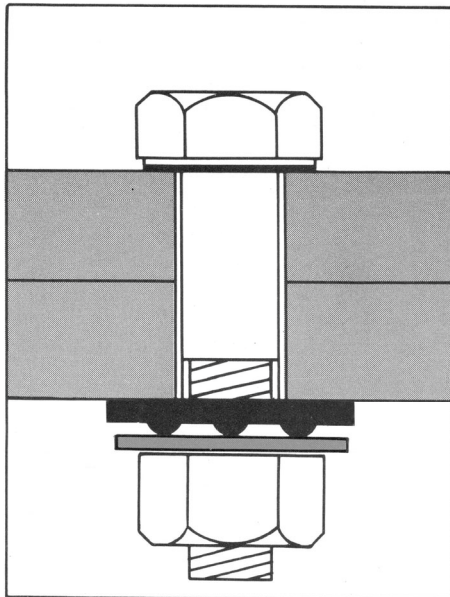

Figure 1. ViewTite Bolting Assembly
1. Install Structural Bolting Assemblies with the ViewTite DTI on the 'nut side' of the connection with the bumps facing outward. Place an F436 hardened washer on top of the ViewTite DTI, and place a hardened 2H or DH nut over the hardened washer. (See Figure 1 below)